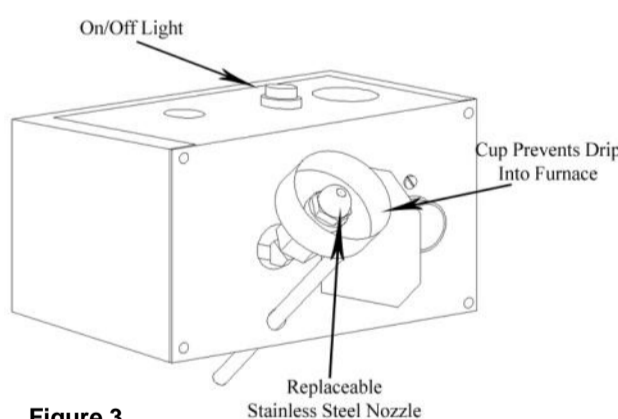

Figure 3
3.8 Install the drain cup over the nozzle; attach it with a #6 x 3/8" sheet metal screw. (See Figure 3, left.)